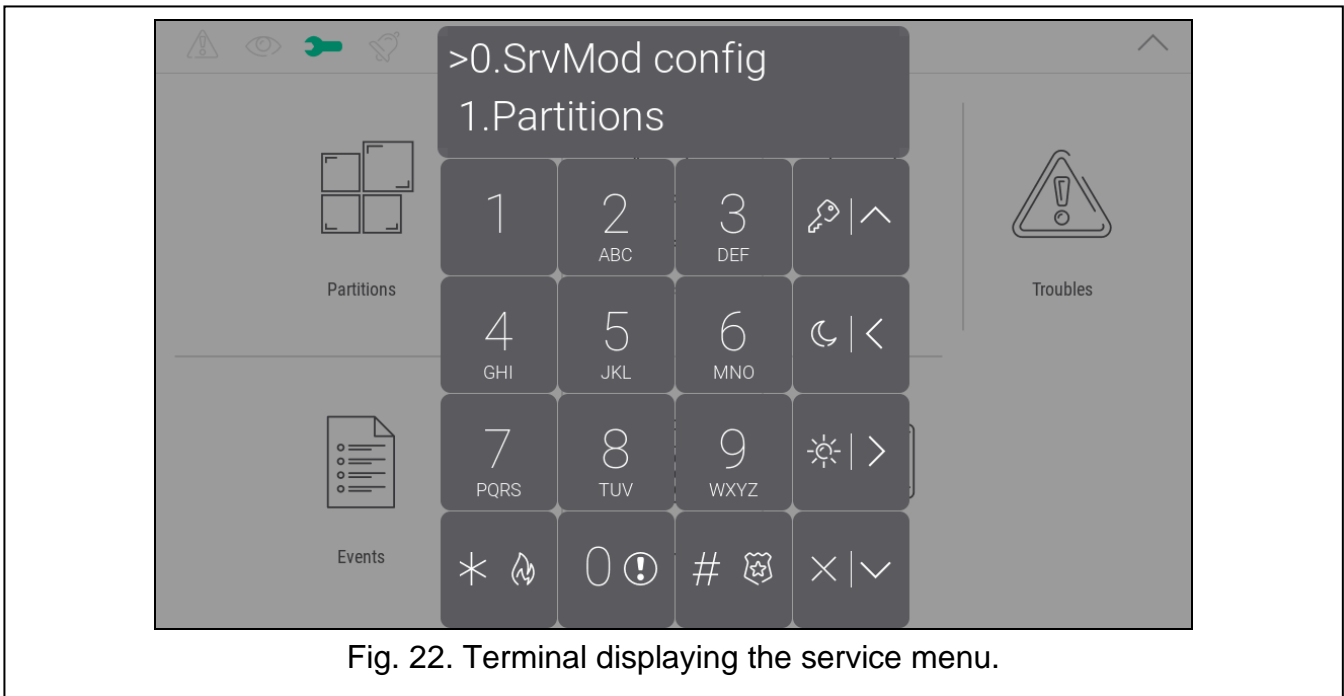

Fig. 22. Terminal displaying the service menu.
6. Tap   . The service menu will be displayed (Fig. 22).